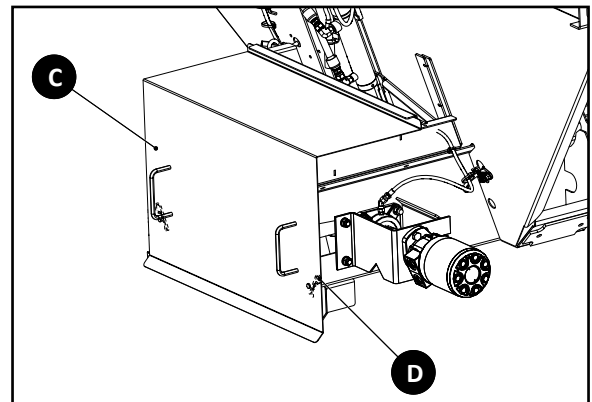

Figure 2
5. Figure 2 - Install Conveyor Cover (C) and secure with hair pins (D) on each side.